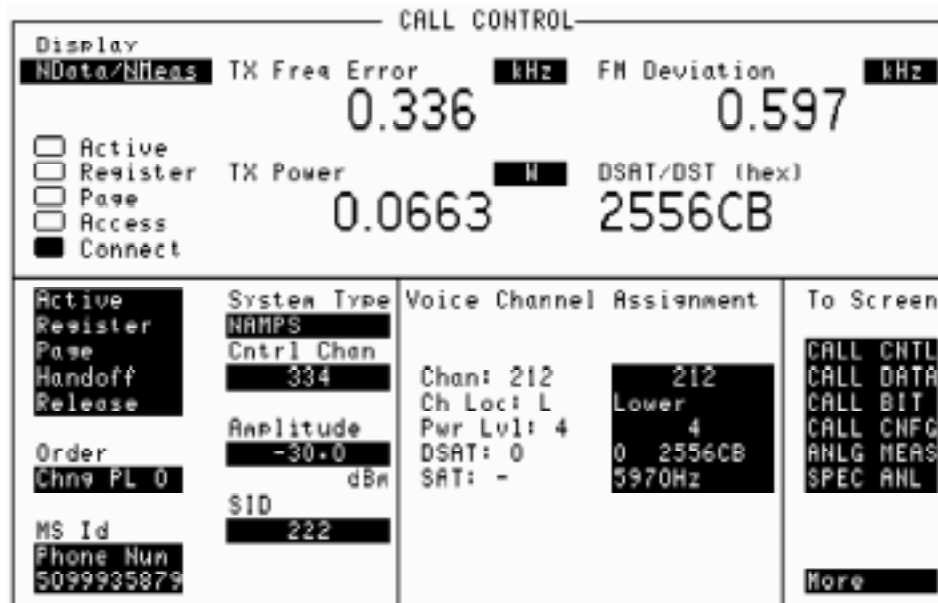

Figure 37 CALL CONTROL Screen with NMeas Selected
- For system type NAMPS the following parameters are measured when the Test Set is in the connect state. See Figure 37, "CALL CONTROL Screen with NMeas Selected," on page 490: